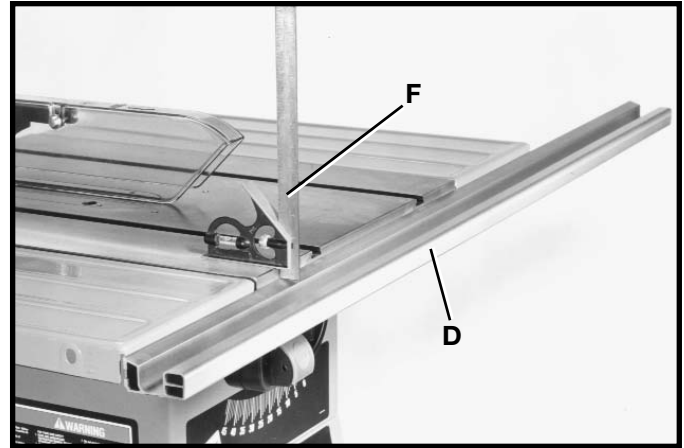

Fig. 7
3. Before tightening the hardware holding the guide rail to the saw table, proceed as follows: Beginning at the two sides of the saw table and using a square (F) Fig. 7, check to make certain the guide rail (D) is parallel with the saw table and extension wings. Tighten all guide rail mounting hardware.